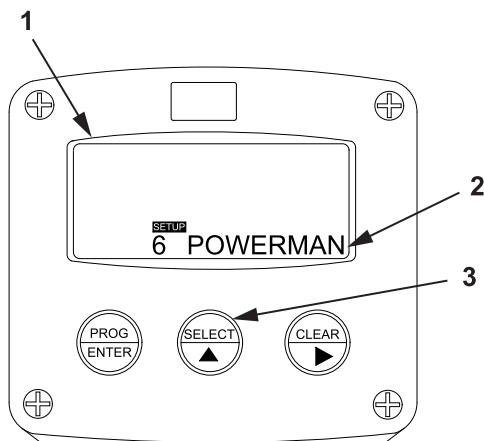

Figure 48. POWERMAN Display.
4. Verify that POWERMAN (Figure 48, Item 2) appears on the display screen (Figure 48, Item 1).
5. Press the SELECT key (Figure 48, Item 3) two times.